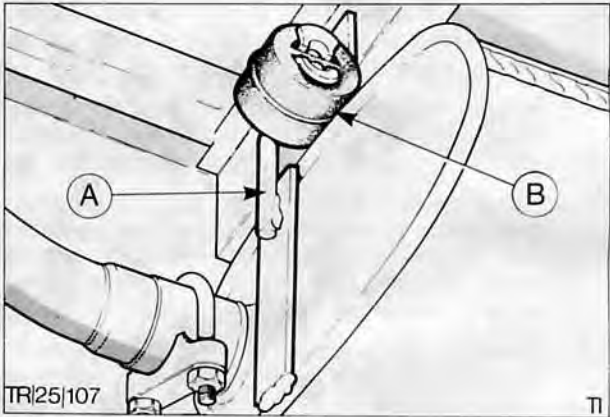

Fig. 13. Front mounting
- 6. Disconnect front muffler section from its support point by unhooking rubber insulator from hanger, Fig. 13. Guide exhaust clear of vehicle.